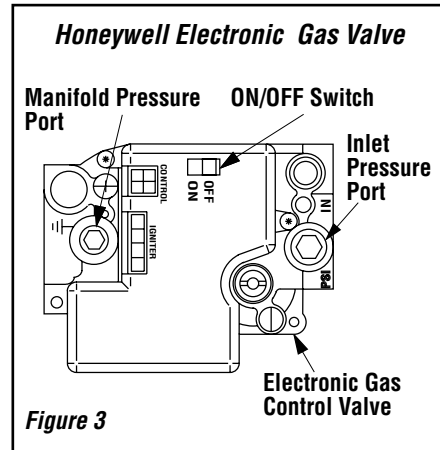
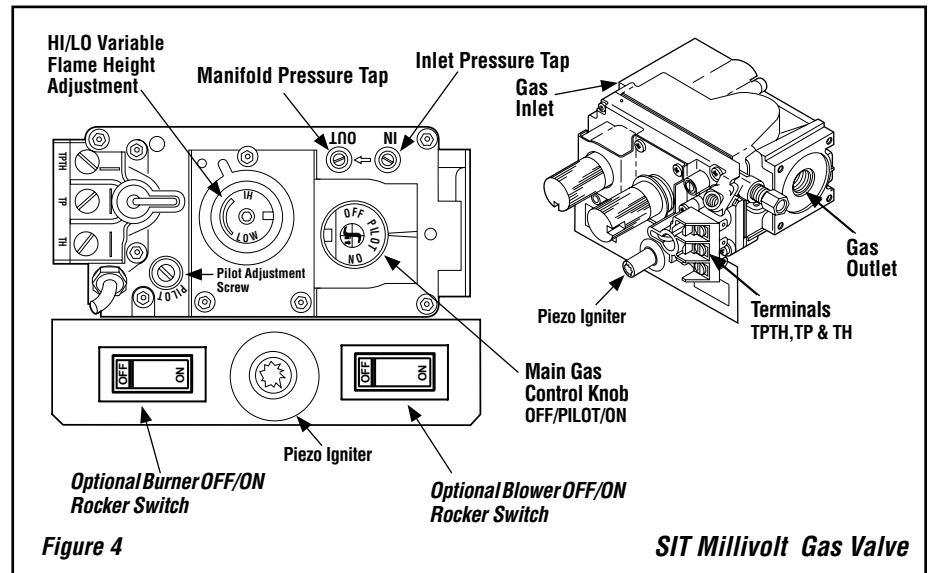

Figure 3
Figure 4
Test gauge connections are provided on the front of the millivolt gas control valve, identified IN for the inlet and OUT for the manifold side (see **Figures 4 or 5** on **Page 4**). A 1/8" NPT Test gauge connection is provided at the inlet and outlet (manifold) ports on the electronic gas control valve (see **Figure 3** on **Page 4**).
Millivolt Appliances - Appliances with Millivolt systems will be fitted with the gas control valve shown in **Figures 4 or 5**.
Electronic Appliances - Appliances with electronic systems will be fitted with the electronic valve shown in **Figure 3**.
1. All Millivolt appliances are equipped with a variable gas control valve. Flame height for these models may be adjusted through a range between fixed low and high settings while the appliance is in operation. Adjust the flame height as desired after lighting the appliance by rotating the variable adjustment control knob (HI/LO) located on the front of the valve (refer to **Figures 4 & 5**).